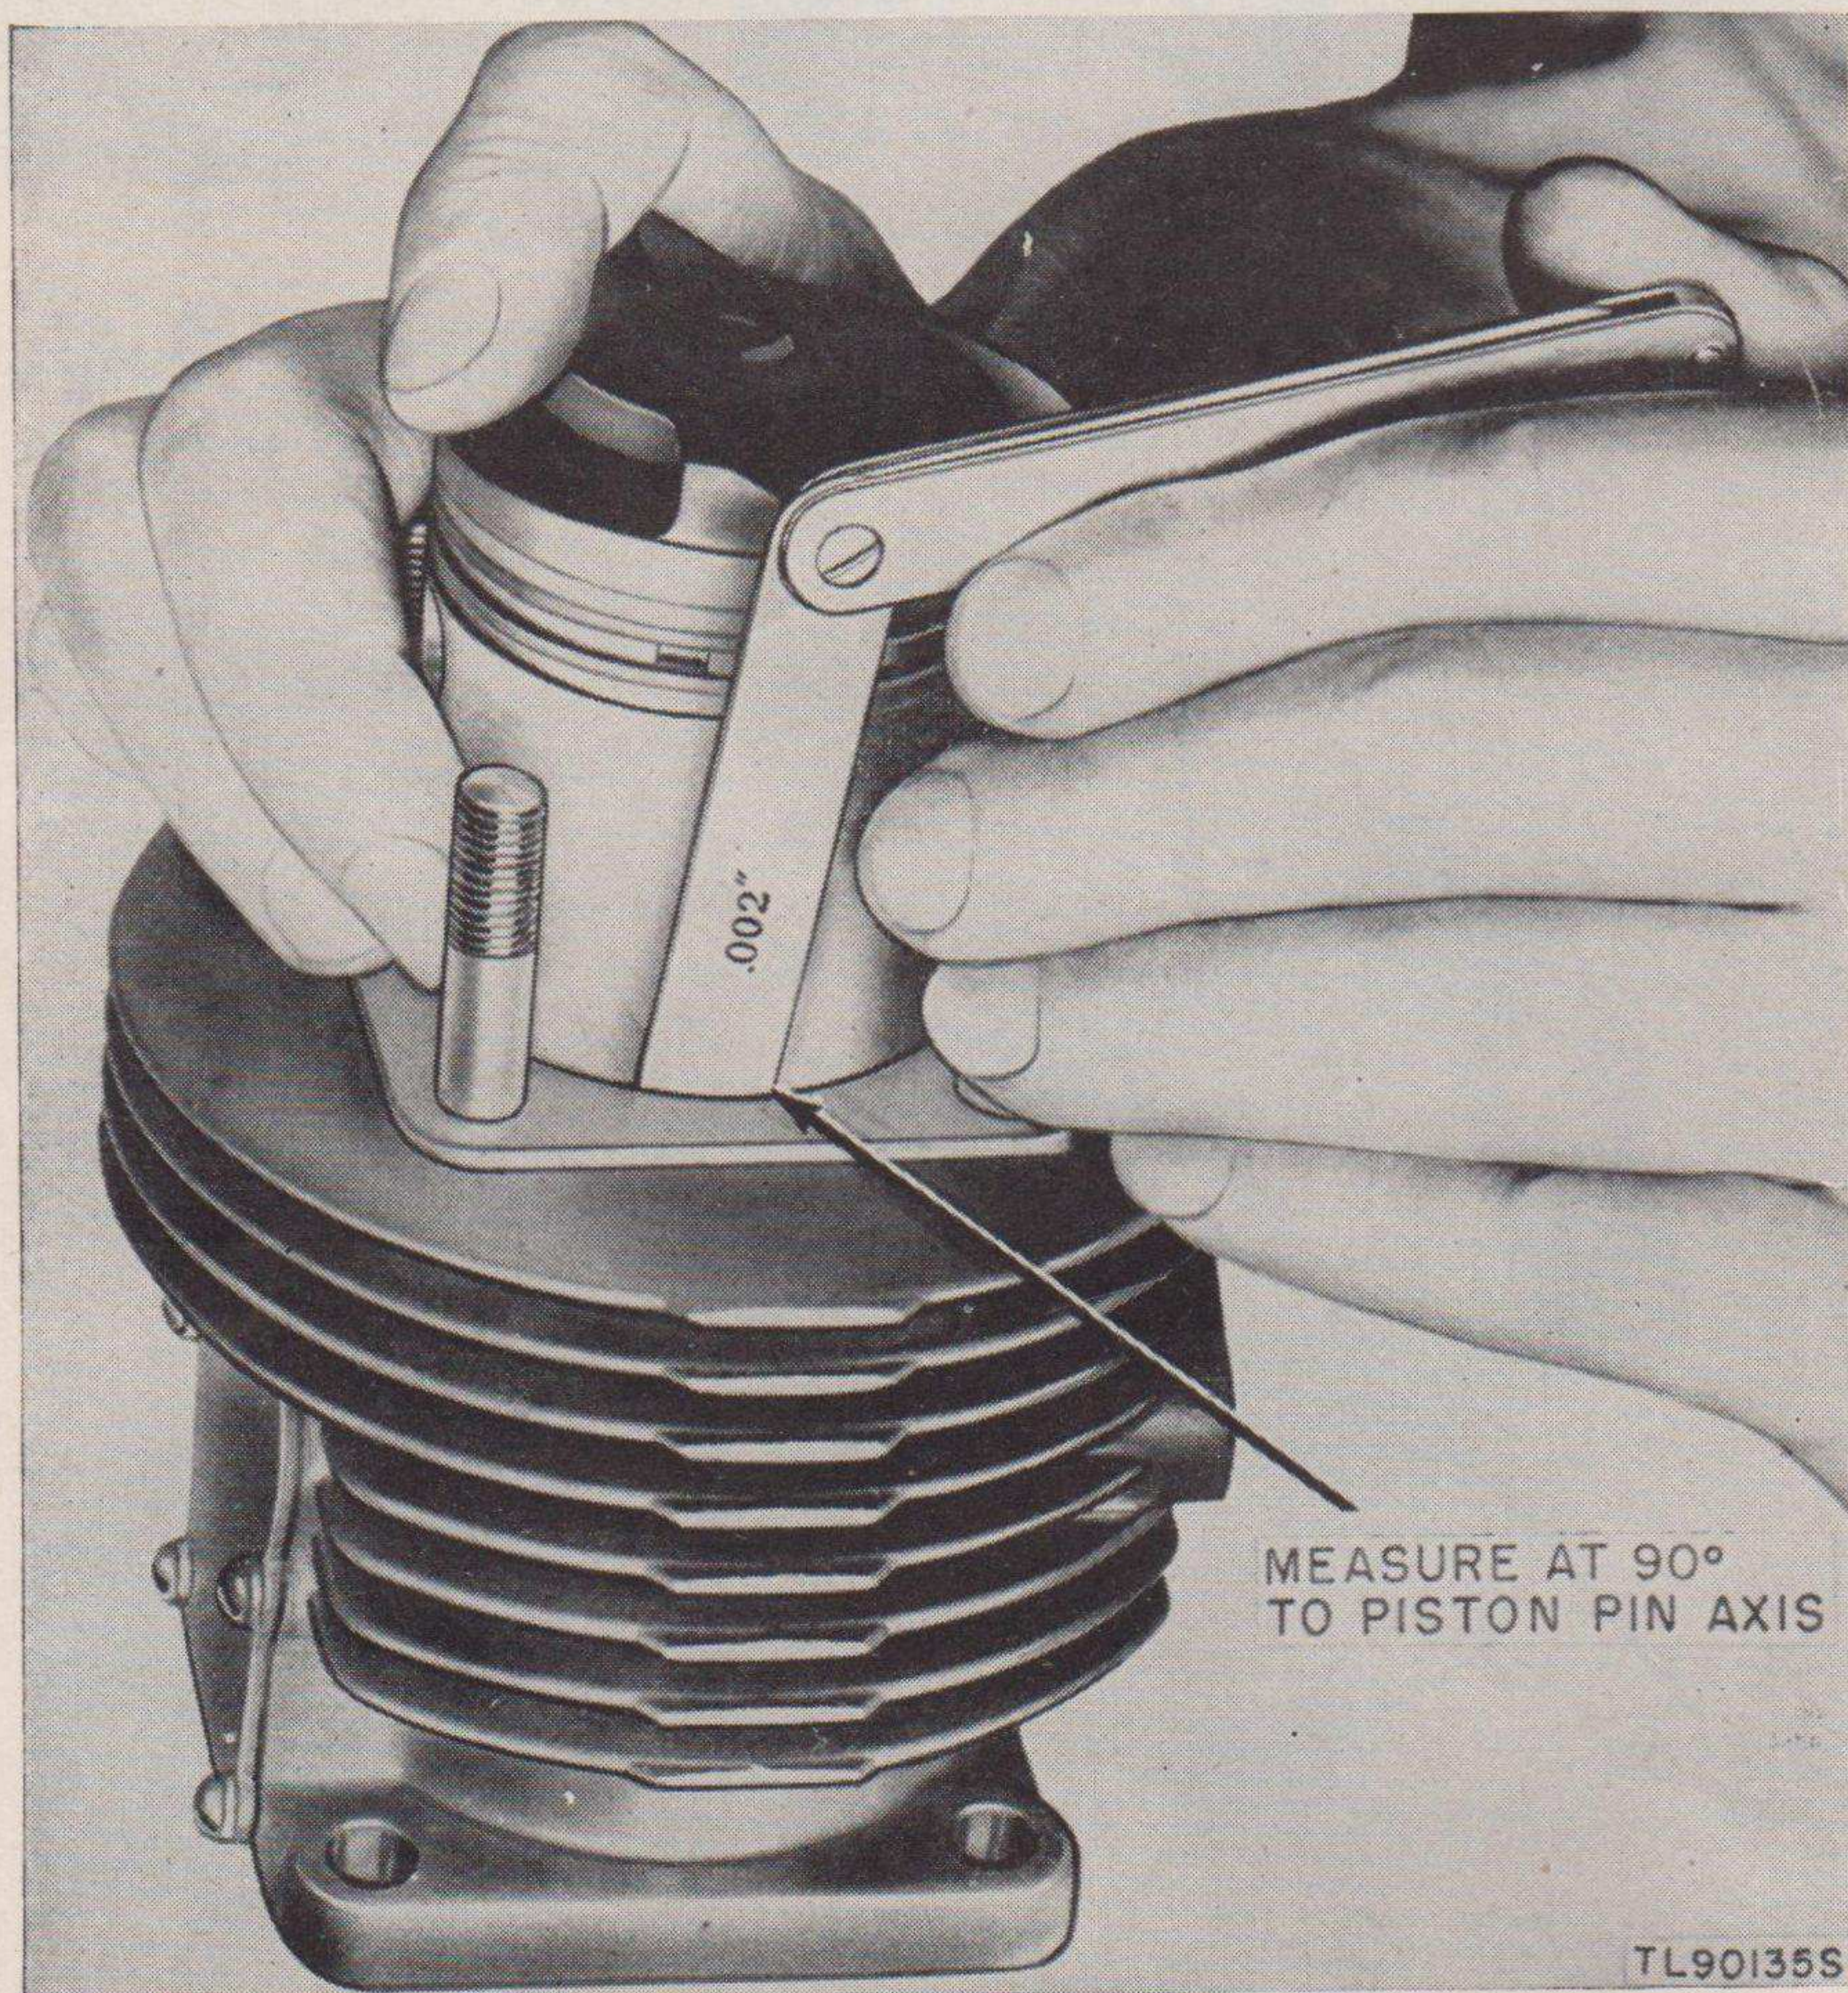

Figure 37. Checking piston skirt clearance.
b. **CLEANING AND INSPECTING.** Clean all carbon from piston head and piston ring grooves. Clean piston and rings in solvent (SD). Thoroughly clean the piston grooves. Inspect piston for cracks and condition of grooves and ring lands. If there are any cracks, the piston should be replaced. Clean the connecting rod bearings with solvent (SD) and inspect them for excessive wear or defects. If a connecting rod bearing is worn or defective, replace the entire rod. Check all clearances and tolerances as follows:
(1) Insert skirt of piston in cylinder with pin in its normal direction and measure clearance at bottom of skirt at a point  $90^\circ$  from the axis of the piston pin (fig. 37). This clearance should be from 0.0025 to 0.0035 inch. Remove piston from cylinder and measure the diameter of the piston skirt at  $90^\circ$  from the